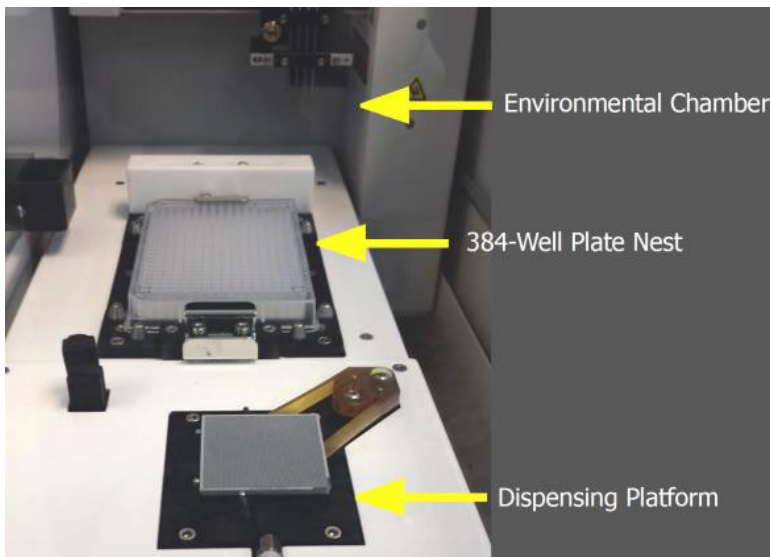

Figure 4. ICELL8 MSND Stage Module.
- All dispensing steps in the ICELL8 MSND Stage Module should be performed with the MSND 384-Well Source Plate oriented with the A1 well positioned at the top-right corner of the 384-well Plate Nest, and the chip oriented with the chamfered (notched) corner positioned towards the lower-right corner of the Dispensing Platform (Figures 4–6, below).